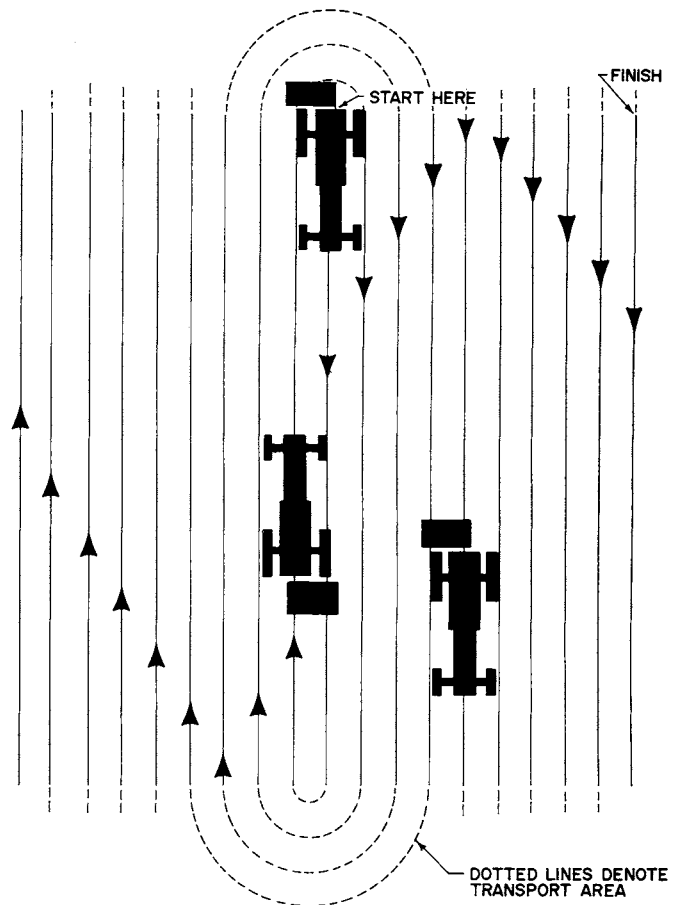

fig 4
3. Observe ground to be cultivated. Plan a route (for seedbed preparation) as suggested in fig 4.